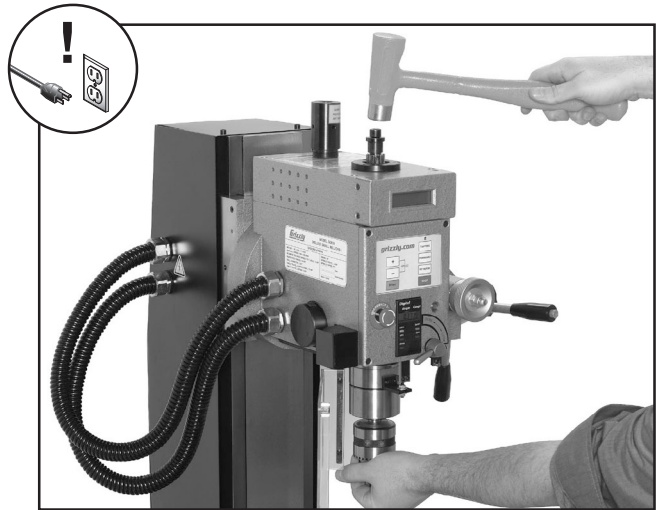

Figure 12. Tapping on the drawbar.
6. Tap the top of the drawbar with the hammer. This will unseat the taper of the arbor from the spindle (see **Figure 12**).